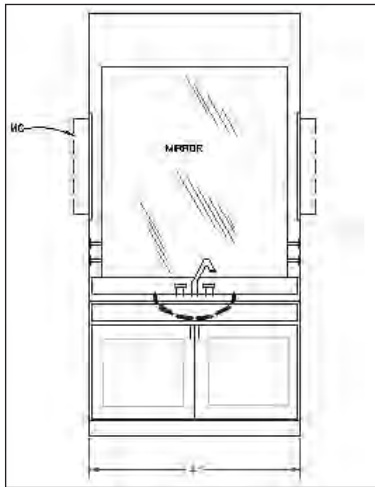

Figure 11-25: The finished cabinet
9. Save your drawing. It should look like Figure 11-25.